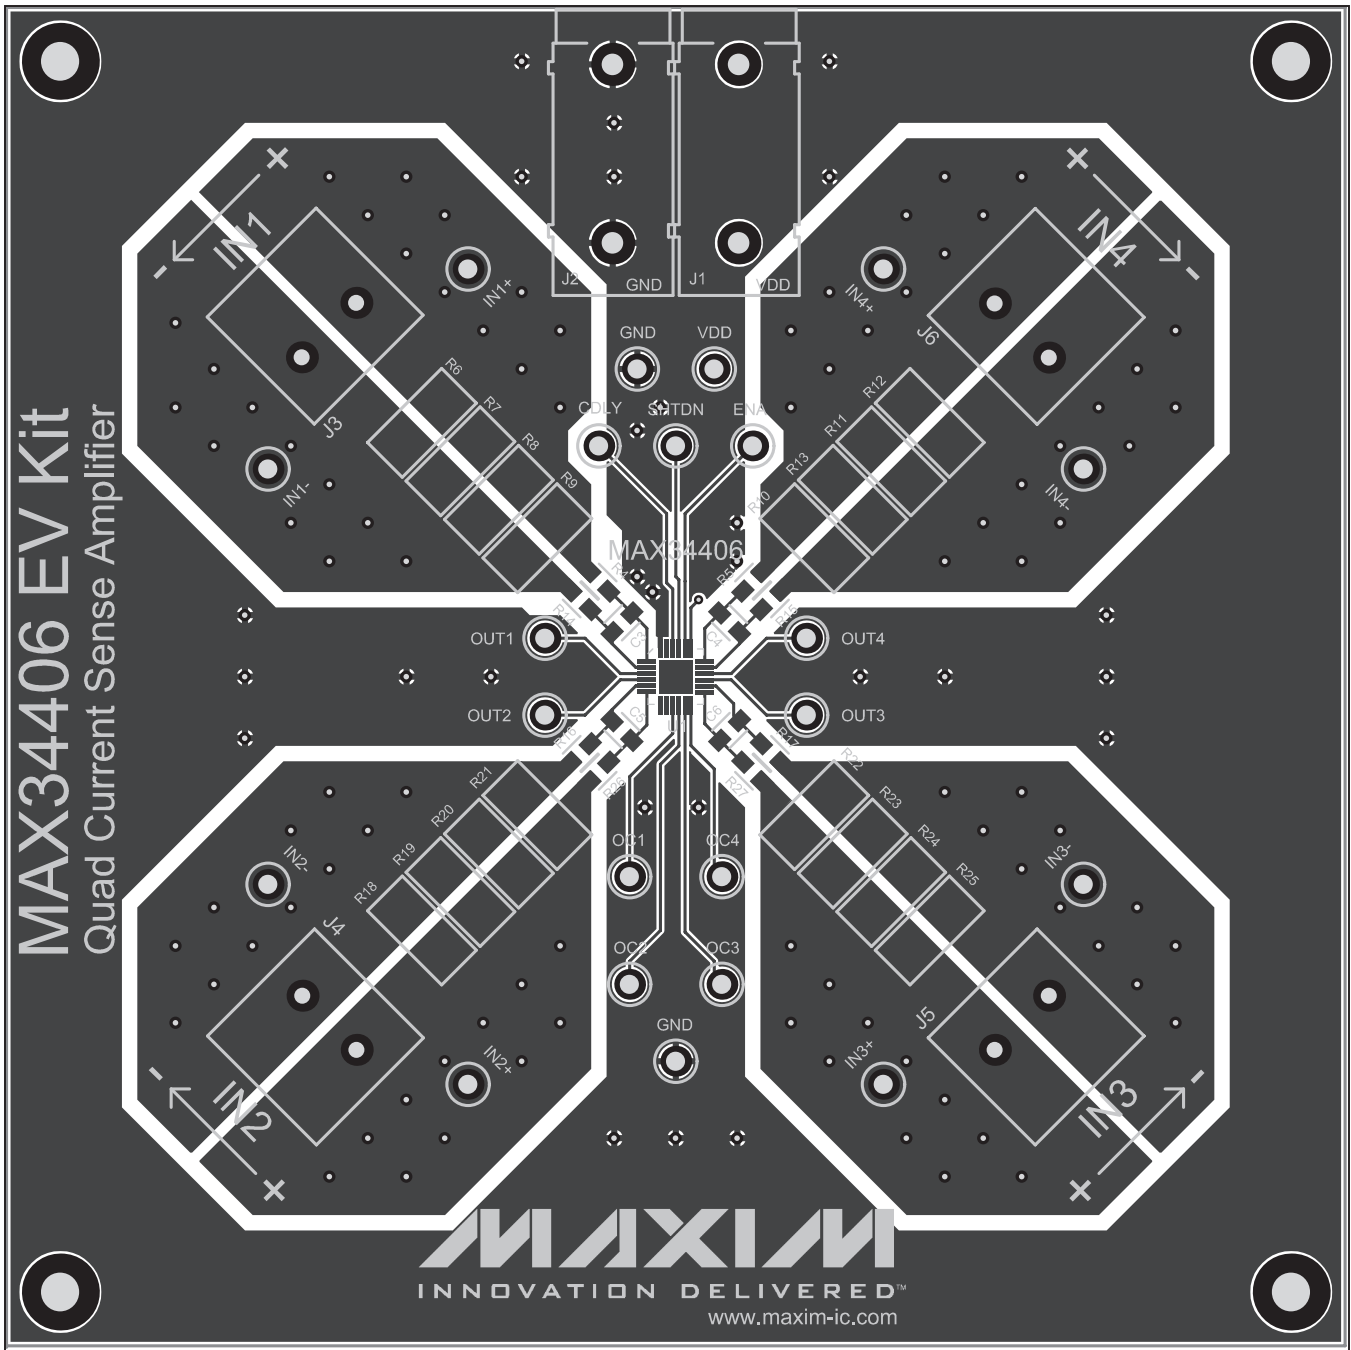

Figure 2. MAX34406 EV Kit PCB Top Drawing
- Apply 0 to 3A (with a common-mode voltage of 2V to 28V) through the green terminals and measure the resulting analog signal at the OUT test points near the center of the PCB (Figure 2). The OUT signals should change linearly from 0 to 750mV as the current changes from 0 to 3A.